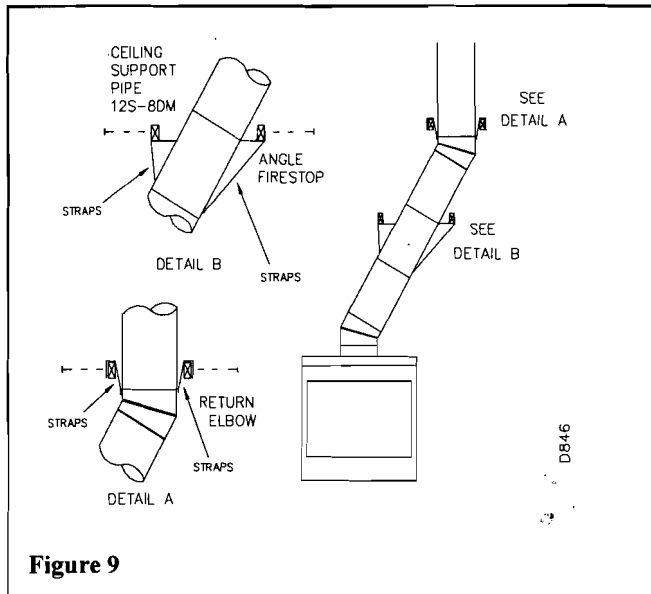

Figure 9
- To achieve desired offset, you may install combinations of 12", 18", 24", 36" and 48" length of double wall pipe (SEE SINGLE OFFSET CHART, FIGURE 9 & 11).
- Chimney weight above offset rests on return elbow. Straps must be securely nailed to rafters or joists (see figure 9, details a & b).